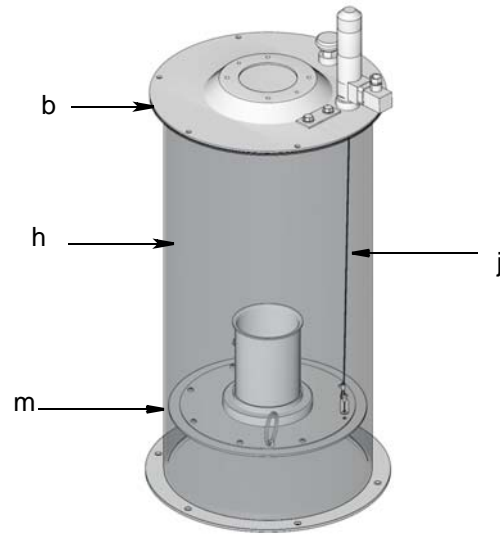

FIG. 8
**NOTE:** When reservoir cover (b) is correctly installed on reservoir (h), the low level cable (j) (installed between the low level indicator and follower plate (m)) will be aligned in a straight and vertical line as shown in FIG. 8.